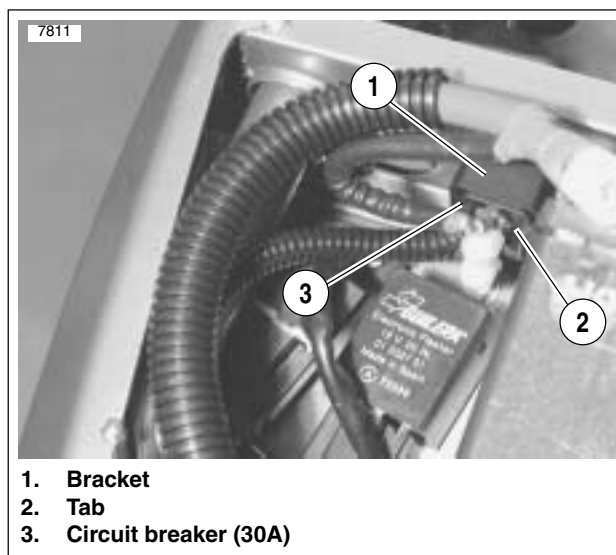

Figure 7-37. Circuit Breaker
See Figure 7-37. Attached to the frame above the battery, the main circuit breaker is between the ignition key switch and the battery.
- d. See Figure 7-37. Remove circuit breaker from circuit breaker bracket by carefully prying tab, located on left side, open and sliding circuit breaker out.